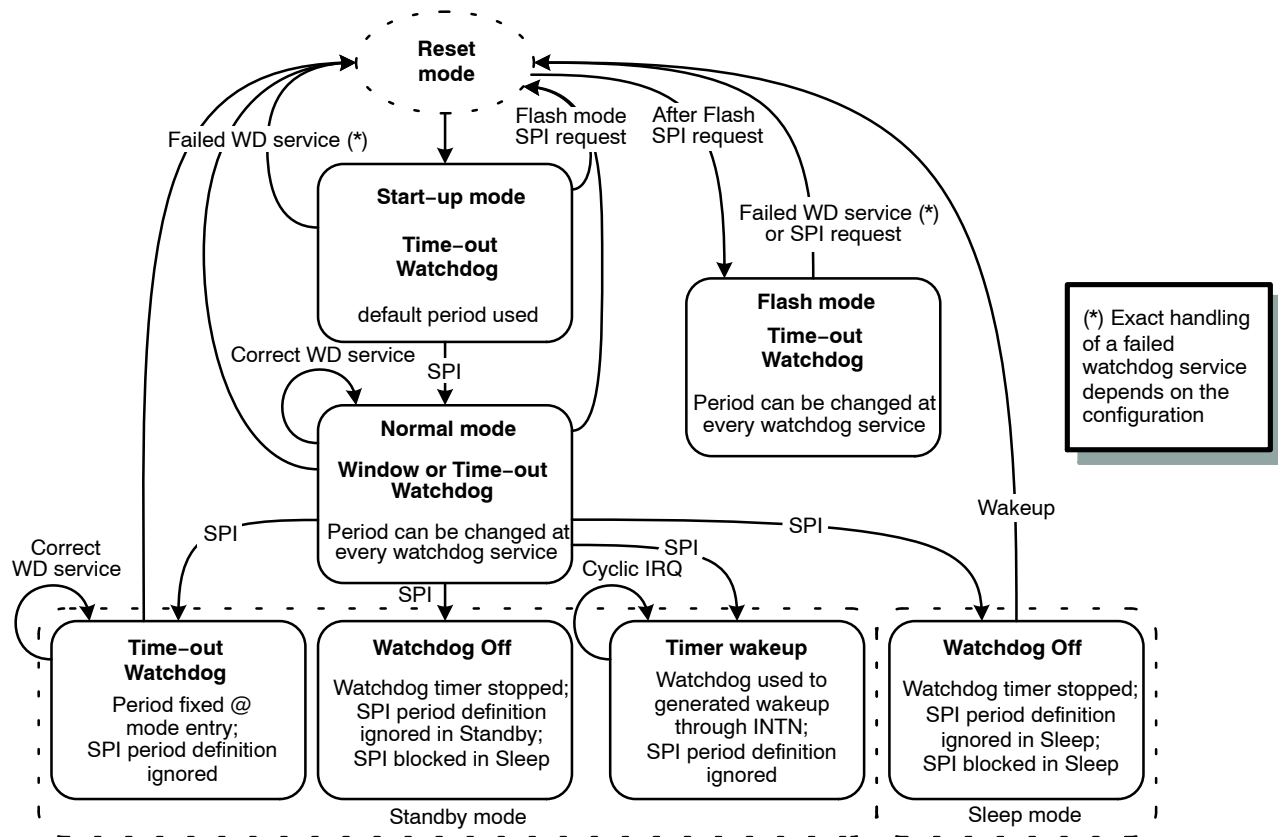
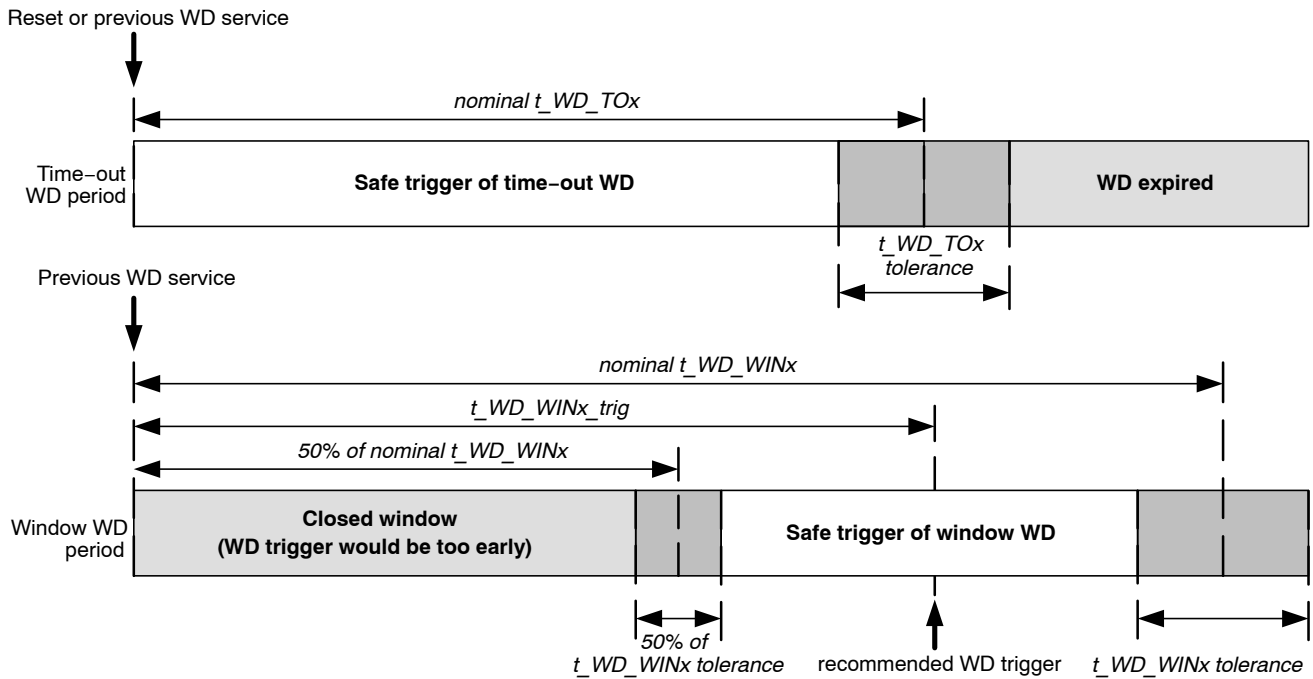

Figure 12. Watchdog Modes
Figure 13. Structure of the Time-out and Window Watchdog Period
The available modes of the watchdog timer are shown in Figure 12, with the watchdog period specified in Figure 13:
- The watchdog trigger moment falls into the correct watchdog trigger interval (see Figure 13) – in the case of the time-out watchdog, it arrives before the watchdog period expires; in the case of the window watchdog, it arrives during the second half of the window interval. In both cases, tolerance of the watchdog timing parameters shall be taken into account.